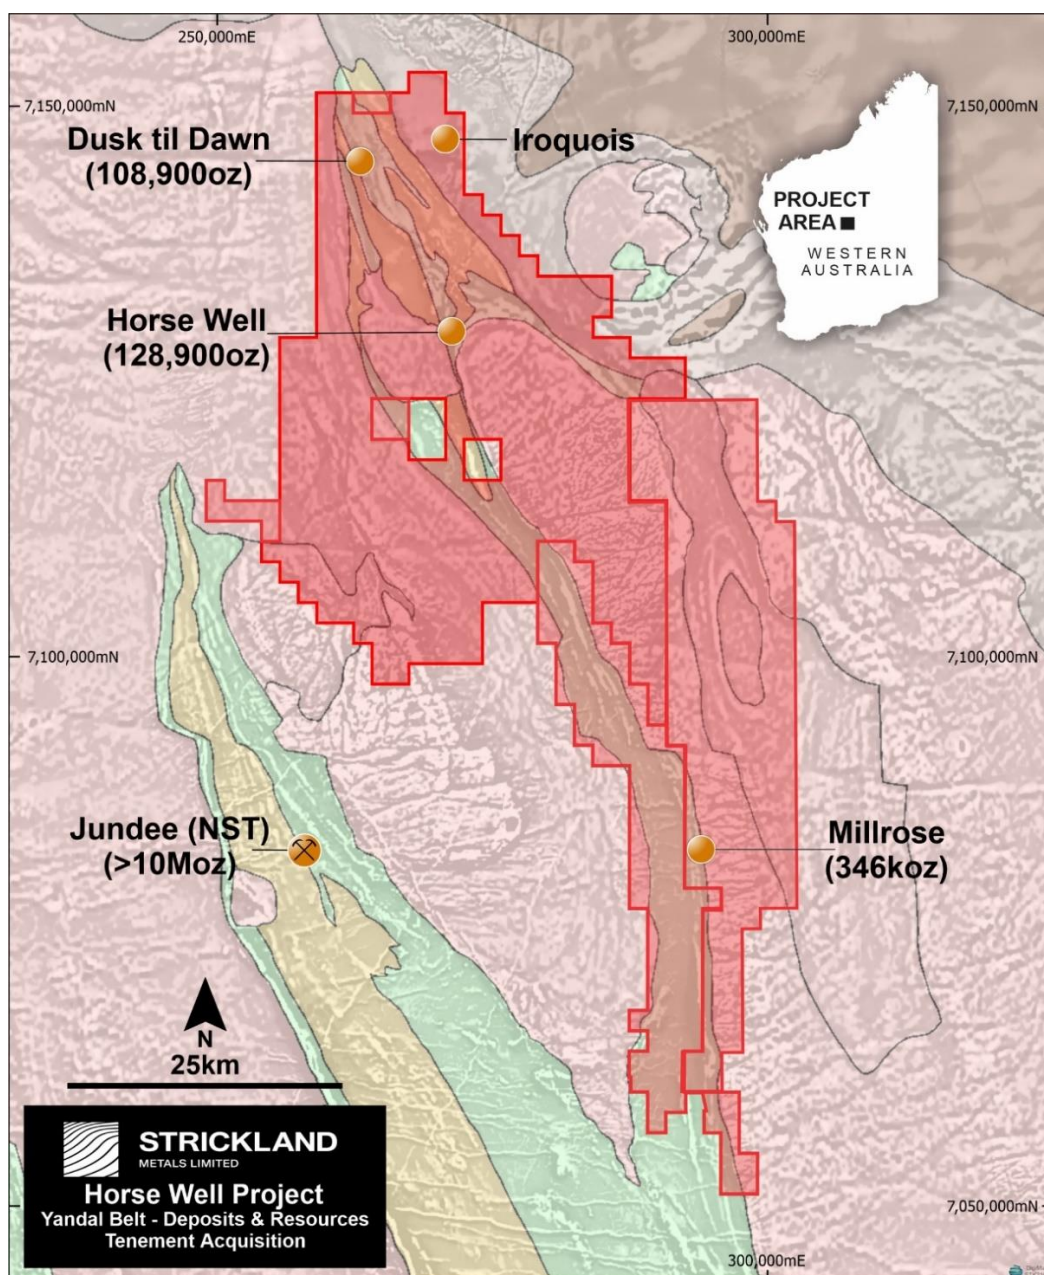

Figure 2: Strickland's Yandal Project area in relation to the existing gold resources and the northern Base Metal Iroquois Project
These most recent assays continue the excellent results returned from previous proximal oxide intersections (Figure 2), as announced to the market on 29 August 2022, 7 September 2022, 21 September 2022, 17 October 2022 and 20 October 2022:
Strickland controls over 100km of strike along the prodigious Yandal Greenstone Belt (Figure 2), the vast majority of which has not been explored. The tenements contain a total gold Mineral Resource of 603,000 ozs Au (11.7mt @ 1.6g/t Au²). The Company's flagship Millrose gold project lies approximately 30km due east of Northern Star Ltd's (ASX:NST) world class Jundee gold operation. Strickland is targeting a resource upgrade in 2023, with substantial ongoing programs planned for 2023 designed to continue growing the project's global gold Mineral Resource.
To assist with understanding the main controls on gold mineralisation, Strickland undertook micro-XRF scanning of core samples (courtesy of Portable Spectral Services) across Millrose to map the relationship between gold, alteration, structure, and geochemistry (Figure 2). This technique scanned a 4cm by 2cm wide piece of core to map the various elements present. Several samples from diamond holes MRDD002 and MRDD008 (Millrose North) and several samples from MRDD011 (Millrose Central) were analysed as part of this process. Micro X-ray Fluorescence spectroscopy (μXRF) is a rapid and non-destructive technique used to quickly acquire qualitative and quantitative geochemical data at high spatial resolution (i.e. μm scale). Micro-XRF is an ideal method for element mapping large samples (19 x 16cm) with little to no sample preparation. Elements ranging from sodium (Na) to uranium (U) can be measured with quantification limits down to parts per million. These qualitative element maps show the spatial variation and abundance of major, minor and trace elements and enable small-scale textural and compositional features to be identified, including those that are not visibly discernible.